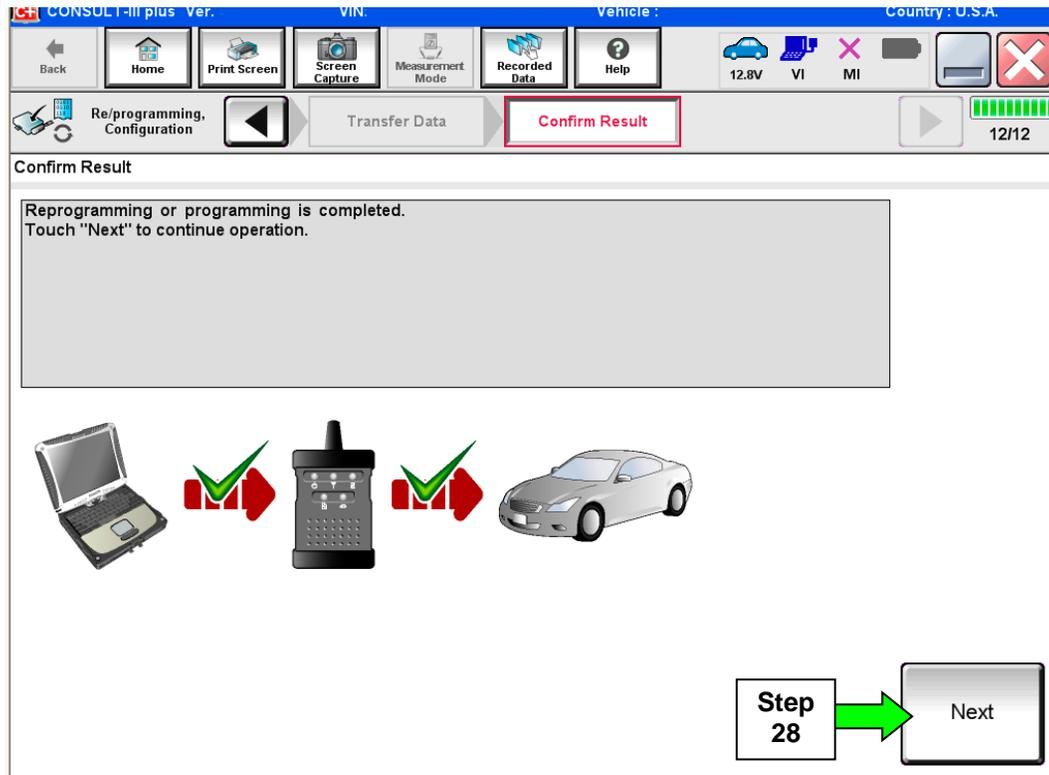

Figure 19
26. When the screen in Figure 19 displays, reprogramming is complete.
NOTE: If the screen in Figure 19 does not display (indicating that reprogramming did not complete), refer to the information on page 16.